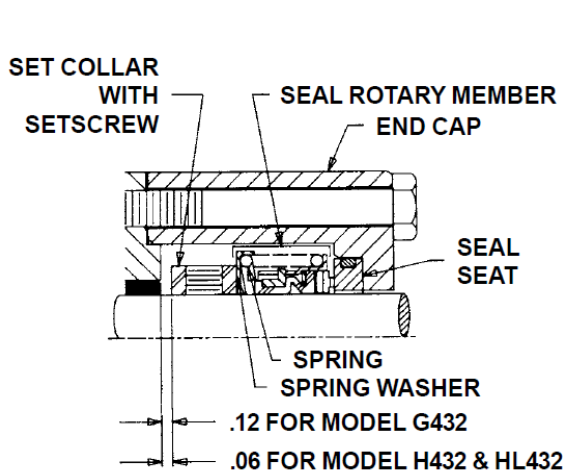

FIGURE 15 - SECTIONAL VIEW, SEAL AREA
1. Begin by placing the set collar on the shaft in the location indicated in Figure 15 on page 9. Tighten the set screw to secure the set collar in place. The set collar helps to position and support the mechanical seal.
5. Place the spring washer and spring onto the shaft in that order, as shown in Figure 15.